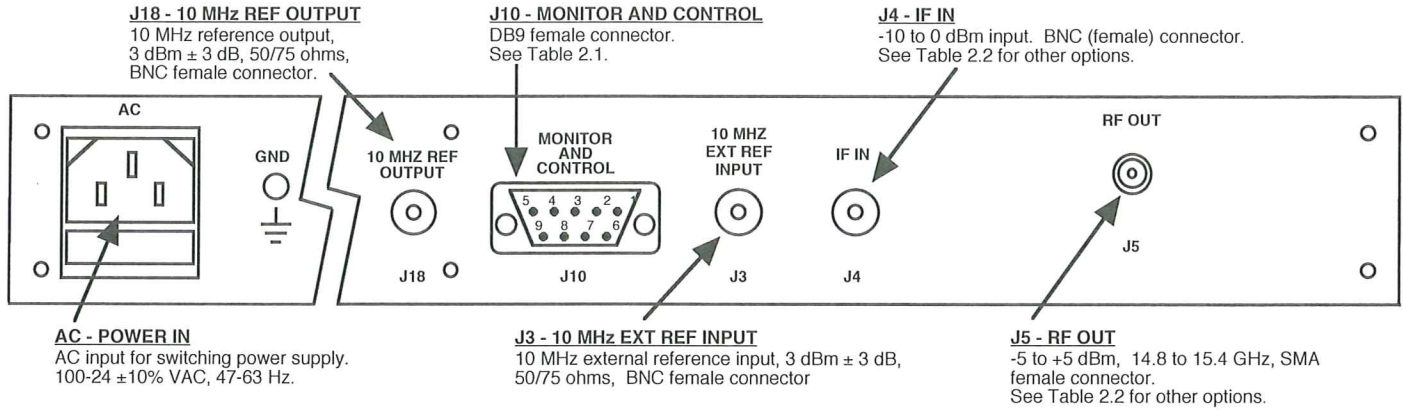

FIGURE 2.2 2015-154-130 Rear Panel Inputs and Outputs
2.2 Rear Panel Input / Output Signals - Figure 2.2 shows the input and output connectors on the rear panel.
1. Connect a -10 dBm to 0 dBm, 130 MHz signal to IF IN, J4 (Figure 2.2)
Alarm indications appear on the LEDs (see figure 2.2).